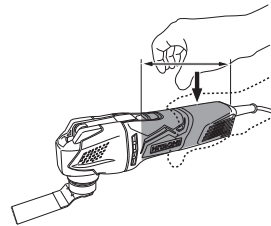

Fig. 1
1. Always hold the tool firmly with one hand on housing (Fig. 1). Do not touch the metal part.